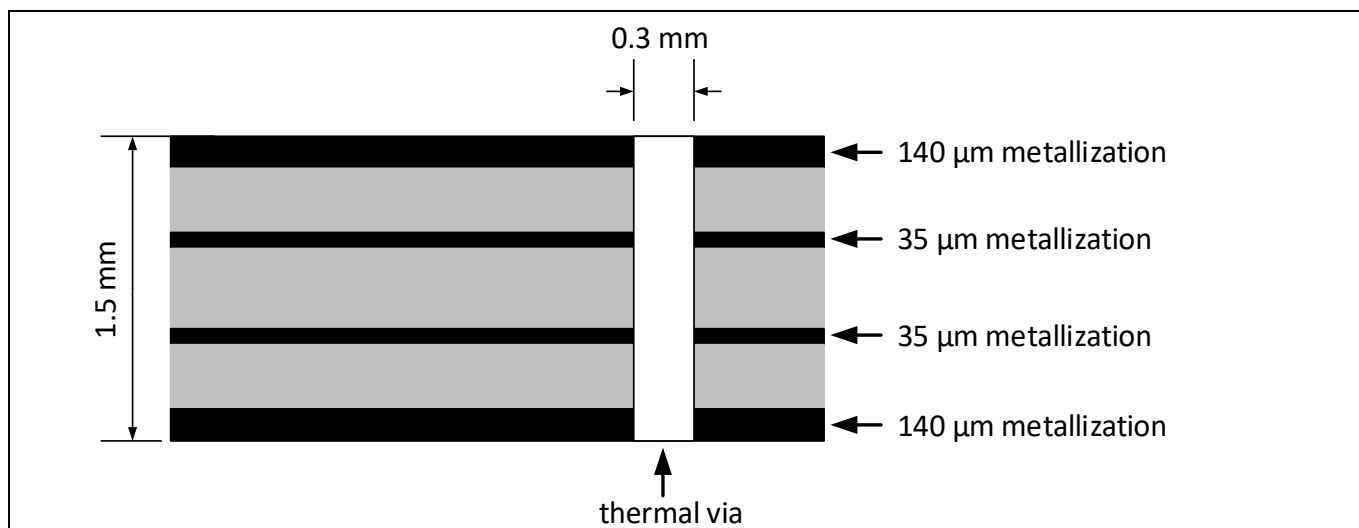

Figure 2 Reference board layer stack
- The TLI4971 EVAL 120A / TLE4971 EVAL 120A board consist of four layer described in the below Figure 2.